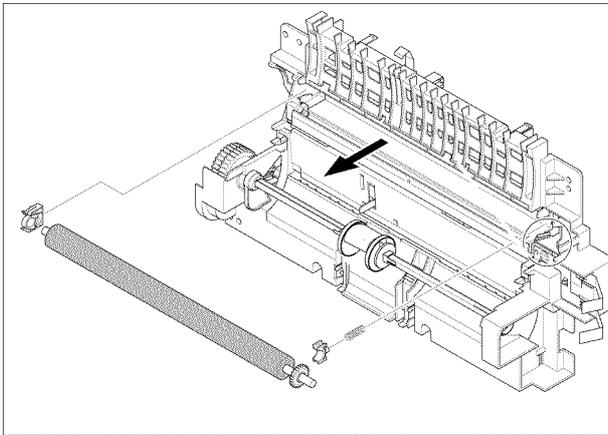

Figure 2
3. Unlatch the transfer roller bushes then remove the transfer roller, Figure 2.